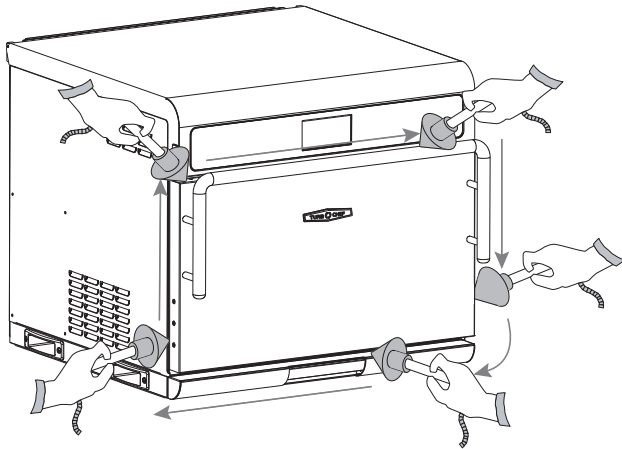

Figure 28: Survey Meter Placement
6. Position the microwave survey meter as shown in Figure 28, above.